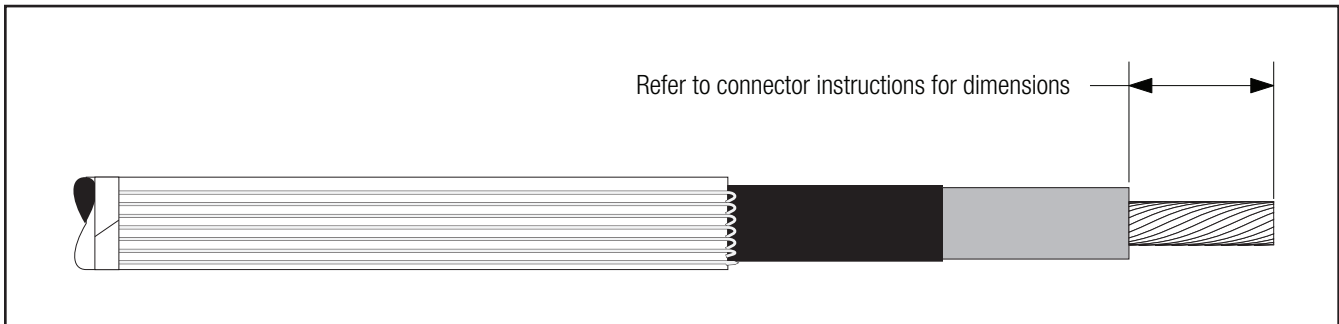

Figure 4
- 3.1 If using a 3M™ Shearbolt Connector QCI 350-750, refer to the instructions included with the connector for insulation cut-back dimension. Insulation removal length shall not exceed 3 3/4" (95 mm) from conductor end (Figure 4).